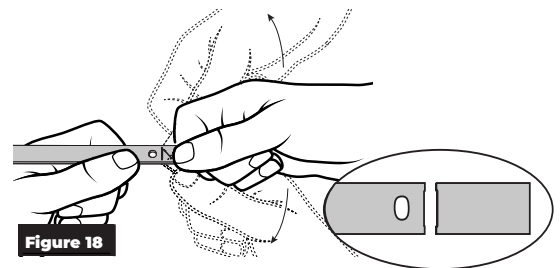

Figure 18
- For 36" (91cm) doors, the dress plate can be shortened by bending the dress plate at the point of the perforation repeatedly until the end piece snaps off. (Figure 18)